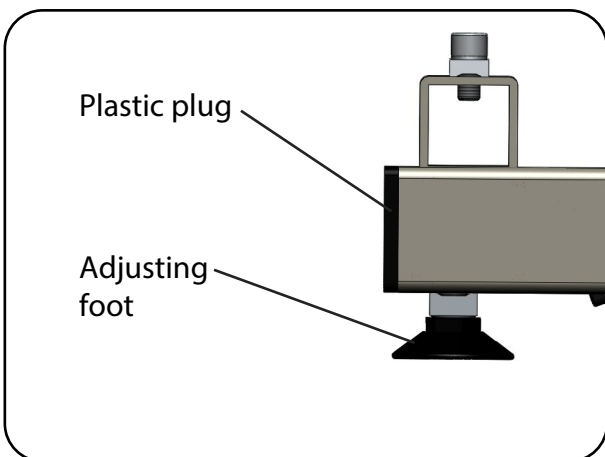

Fig. 6.7.03 - aks B4c Standard
5. Remove the plastic plugs in the lower frame (Fig. 6.7.03).
6. Unscrew the four adjusting feet from the lower frame (Fig. 6.7.03).